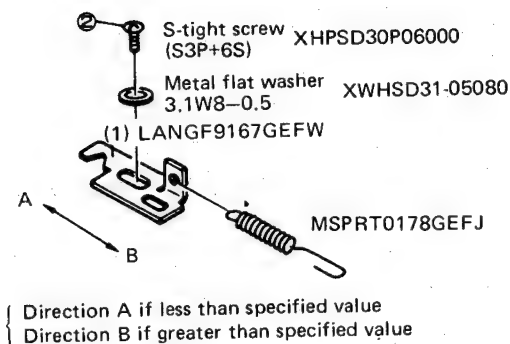

Figure 16
1. If the tape tension is less than the specified value (23 – 28g), move the tension arm spring angle bracket (1) in the direction of arrow A in Figure 16 and tighten screw (2).
2. If the tape tension is greater than the specified value (23 – 28g), move the tension arm spring angle bracket (1) in the direction of arrow B in Figure 16 and tighten screw (2).